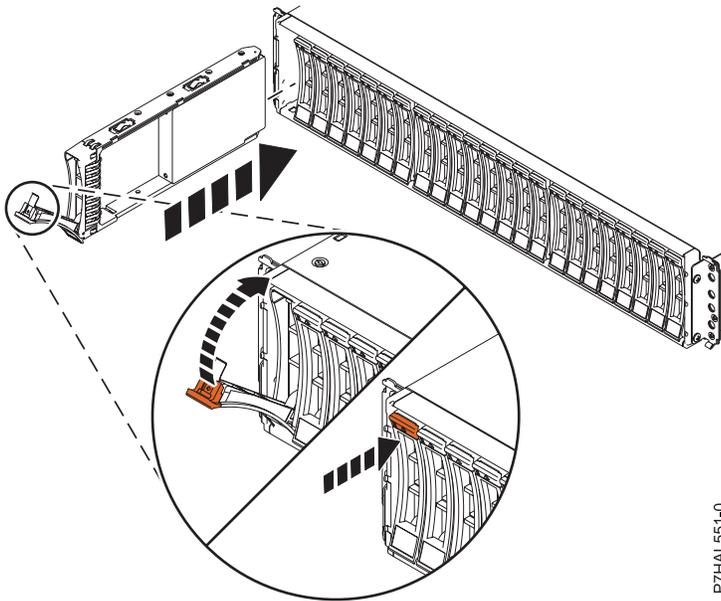

Figure 2. Installing the disk drive in the 58/87 disk drive enclosure
1. With the handle in the unlocked position, as shown in Figure 2 on page 8, support the bottom of the drive as you align it with the guide rails in the expansion unit.